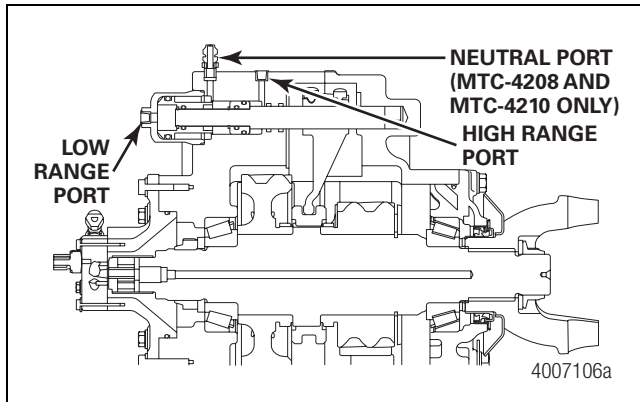

Figure 4.14
- Disconnect the air lines used to shift in the previous steps. Figure 4.14.